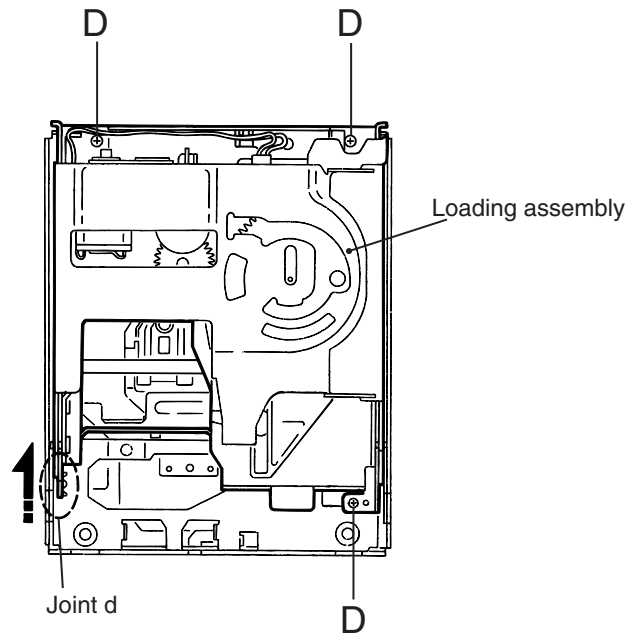

Fig.8
■ Removing the Loading assembly (See Fig.8 and 9)